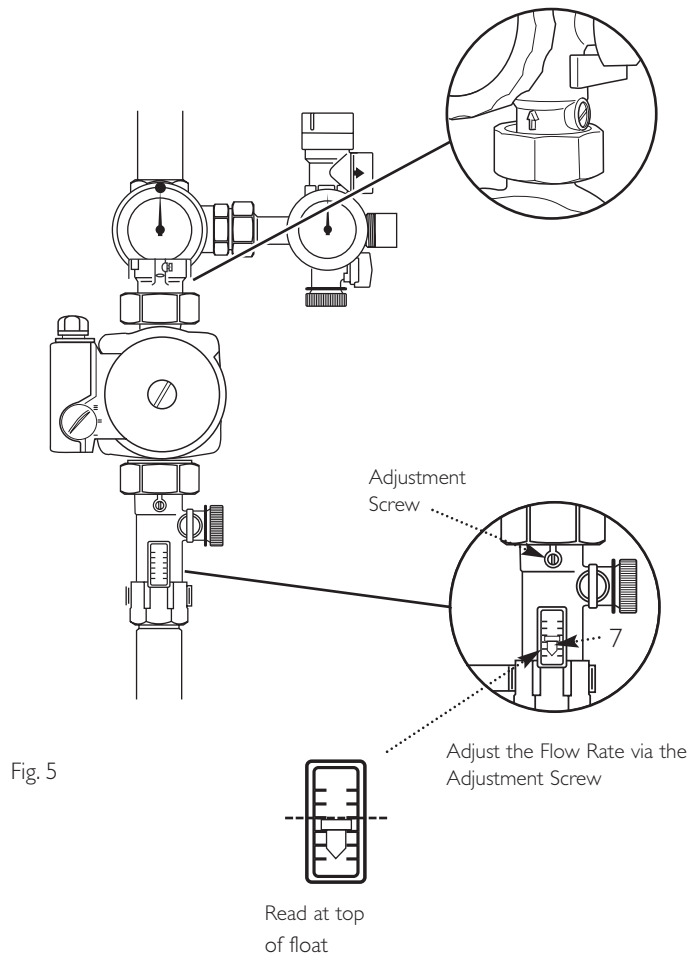

Fig. 5
1. Adjust the flow rate when the system is cold (20°C) (see Fig. 5).
4. Set the solar pump speed selector so that the required flow rate is achieved or exceeded with the lowest possible setting. The flow limiter adjusting screw (Fig. 5) can be used to fine-tune the flow rate.
6. The float in the flow meter will indicate the circulation flow rate through the flow meter sight glass (Fig. 5 Item 7).